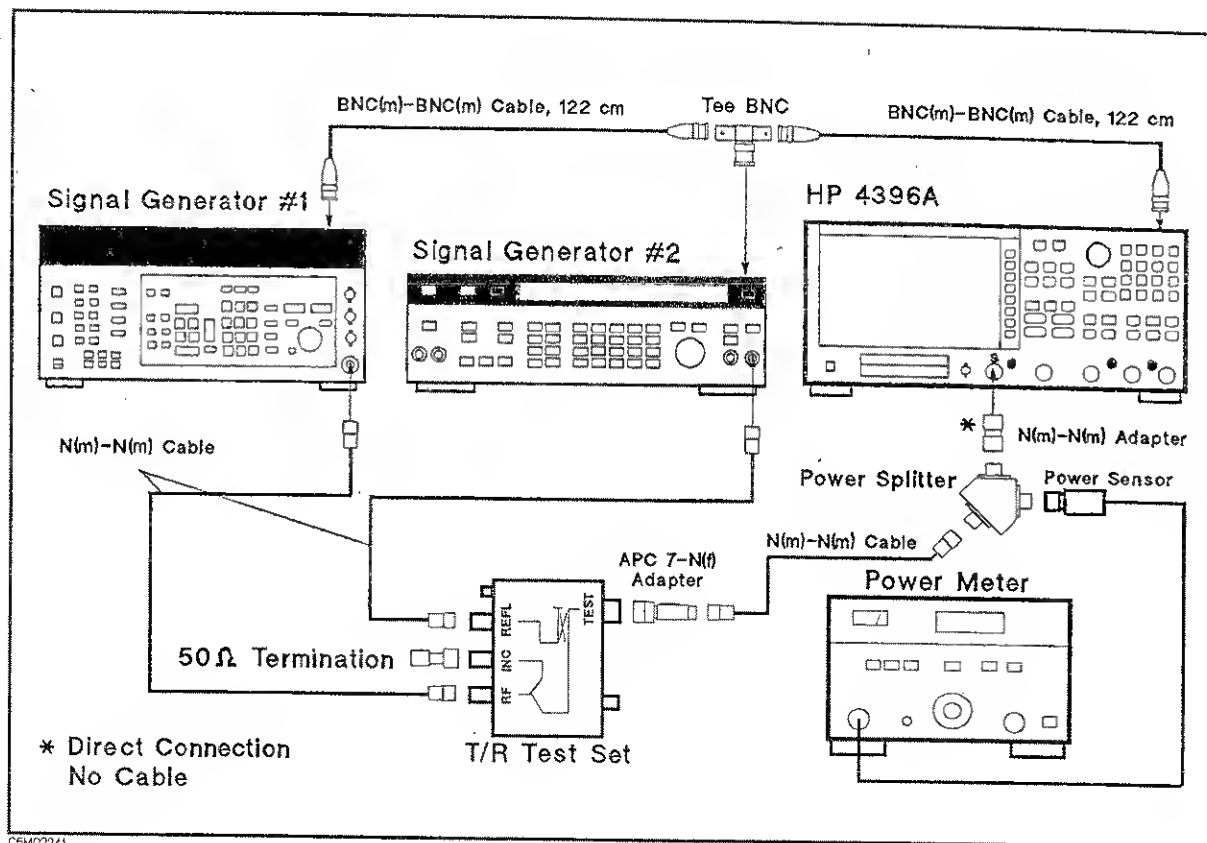

Figure 2-30. Third Order Intermodulation Distortion Test Setup
1. Connect the test equipment as shown in Figure 2-30.
Connect the signal generator's 10 MHz frequency reference output to the HP 4396A EXT REF Input on the rear panel as shown in Figure 2-30. With this configuration, both the signal generator and the HP 4396A are phase locked to the same reference frequency to obtain a stable measurement.